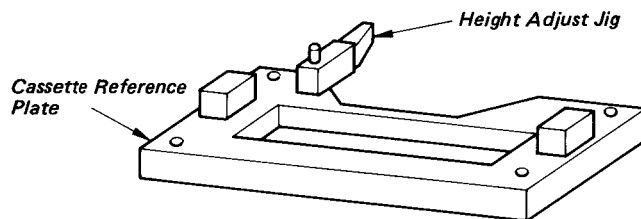

Fig. 5-117 Cassette Reference Plate
A. Checking the vertical angle of tension pole (Figs. 5-117, 5-118, 5-119, 5-120)